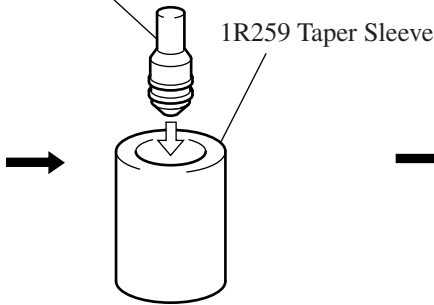

Fig. 31A
- 2. In order to correct the deformation, insert impact bolt with the fluoro carbon resin ring 20 into the repairing tool, Taper sleeve (No.1R259) and leave it in the repairing tool at least 10 seconds. (see Fig. 31A)